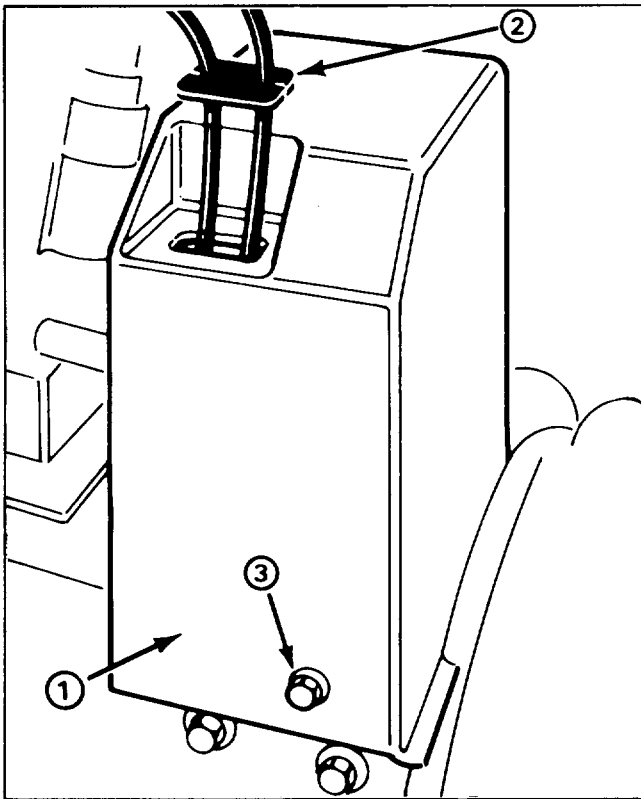

Figure 24
1. Remove (3) flange head capscrews securing belt cover to engine frame and slide belt cover up cables (Fig. 24).